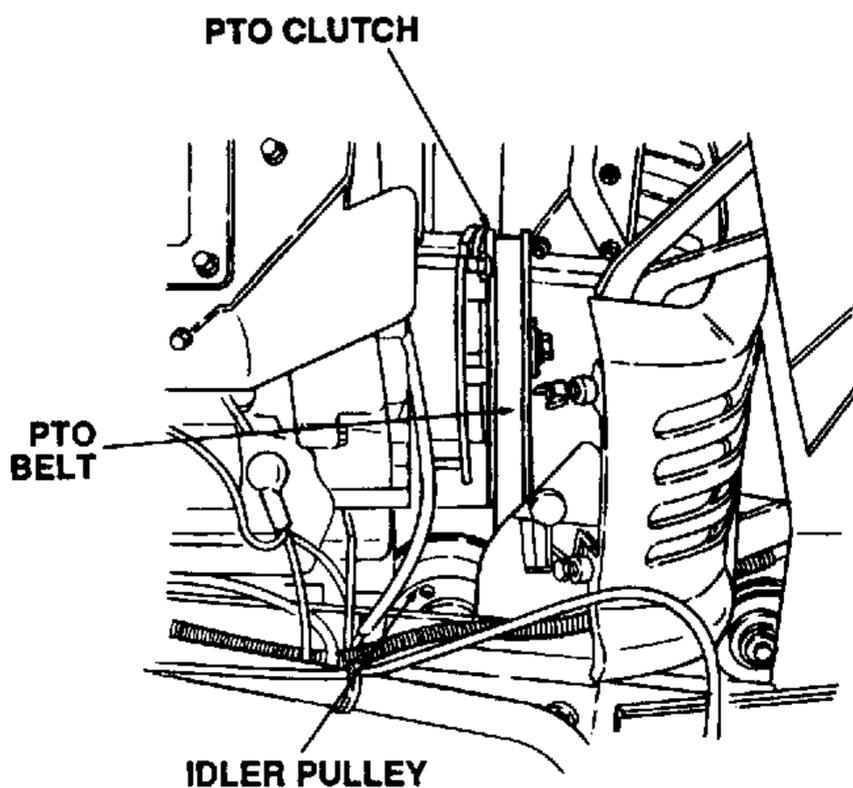

Figure 7-37. Installing PTO Belt.
7. Route the PTO belt under the idler pulleys of the tractor and up over the PTO clutch on the front of the engine. See Figure 7-37.